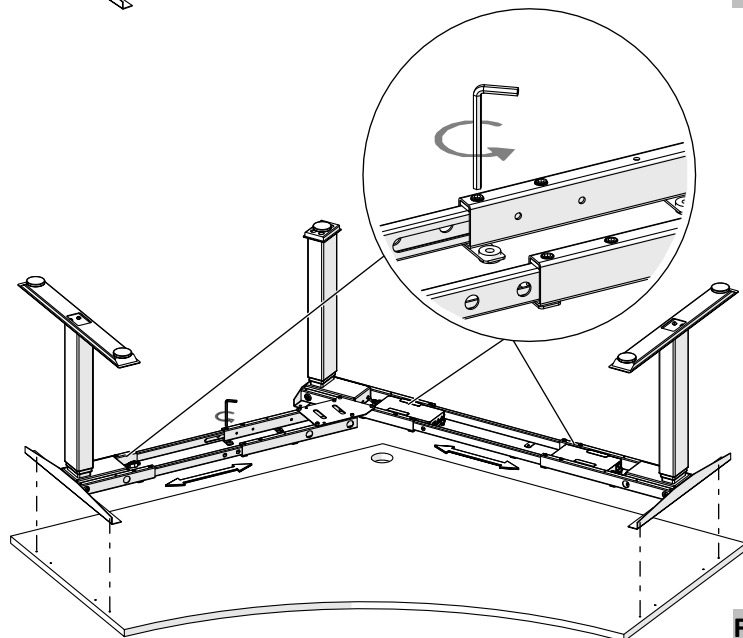

Figure 7
9. Loosen the screws of the base frame using an Allen Key; adjust the widths of the base frame to fit the table top by aligning the holes of the side support bracket to the pre-drilled holes in underside of table top, (Figure 7).
⑤ 120° CORNER BRACKET